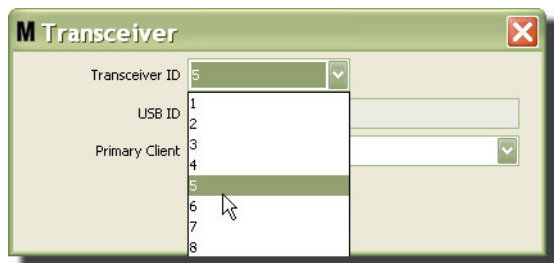

FIG. 89
4. To modify the Transceiver ID, click the arrow to display the drop-down menu. From the drop-down menu select a Transceiver ID number that is not already being used by a Transceiver in the system (FIG. 89). Click OK to close the screen and save the changes.